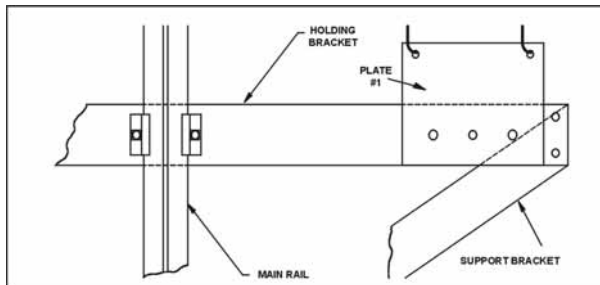

Figure 1-27
- Position the bottom support bracket to a position below the support bracket plate #1 that would allow the springs to become stretched to 1.5 times their original lengths. Verify the support bracket is inline with the top bracket and the centerline of the tape. Securely mount the bottom support bracket to the rail. [See Figure 1-27.]